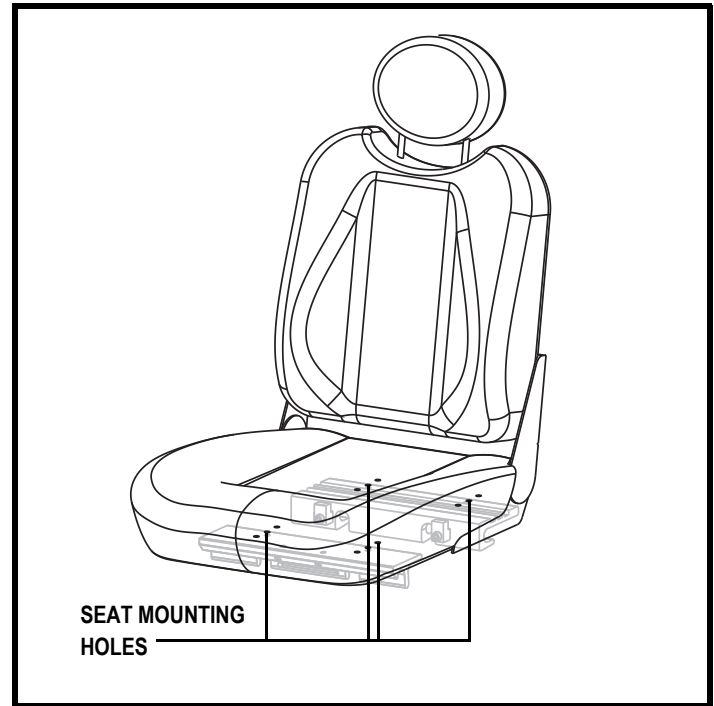

Figure 17. Seat Position Adjustment
7. Reposition the extrusions on a different set of mounting holes. You must move both extrusions the same number of holes either forward or backwards. See figure 17.